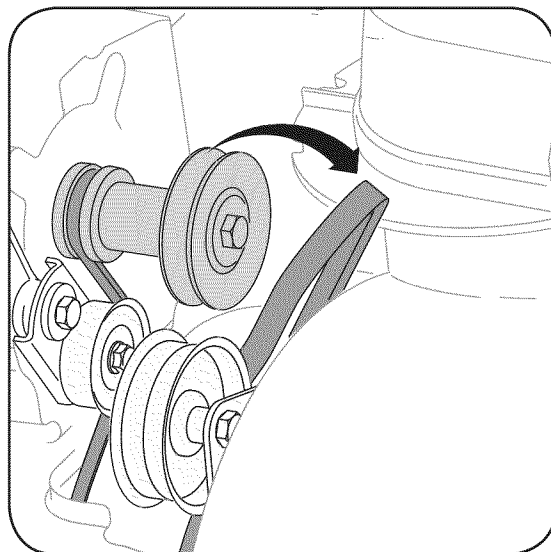

Figure 22
1. Roll auger belt off the pulley as shown in Figure 22.